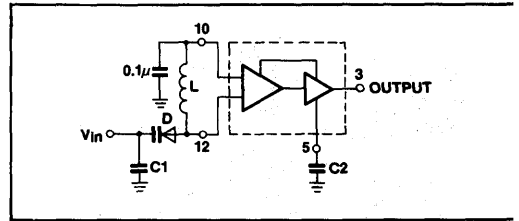

Fig.5 The SP1648 operating in the voltage-controlled mode
When operating the oscillator in the voltage controlled mode (Fig.5), it should be noted that the cathode of the varactor diode (D) should be biased at least 2 V_{BE} above V_{EE} (≈1.4V for positive supply operation).
Capacitors (C1 and C2 of Fig.5) should be used to bypass the AGC point and the VCO input (varactor diode) guaranteeing only dc levels at these points.
OSCILLATOR TANK COMPONENTS (CIRCUIT OF FIGURE 5)